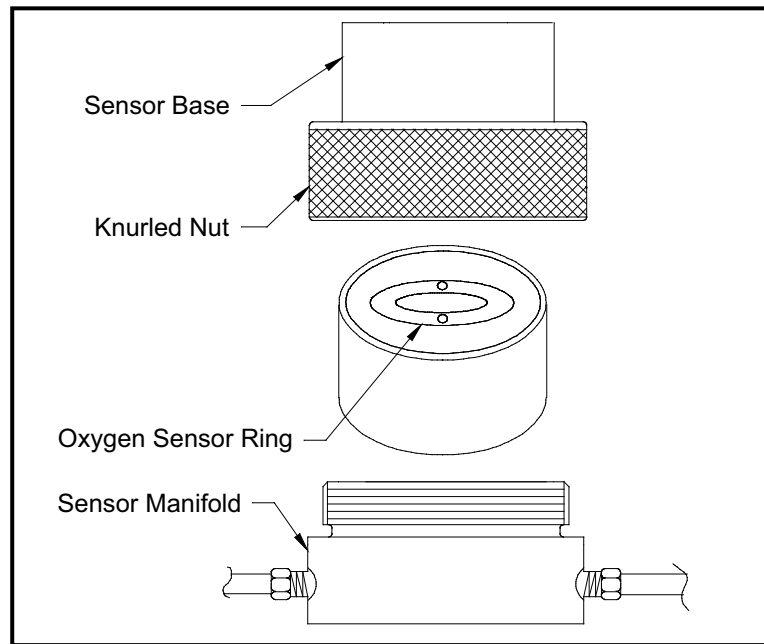

Figure 6: Oxygen Sensor Installation
To install a new or replacement oxygen sensor in the oxy.IQ, refer to figure 6 below and complete the following steps:
6. Orient the sensor so that its gold-plated electrodes are facing the spring-loaded contact pins in the sensor base (see figure 6). Firmly press the oxygen sensor into the sensor base at the bottom of the oxy.IQ electronics module.